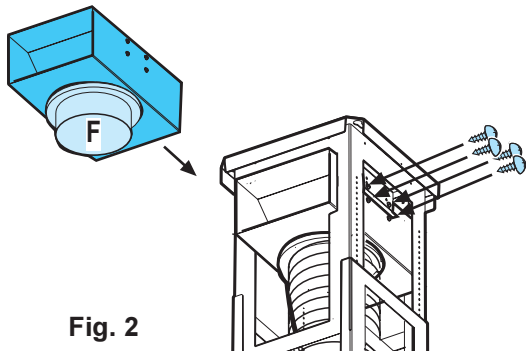

Fig. 2
- Fix the deflector using 4 screws \varnothing 3.5x6.5 mm. **Fig. 2**.